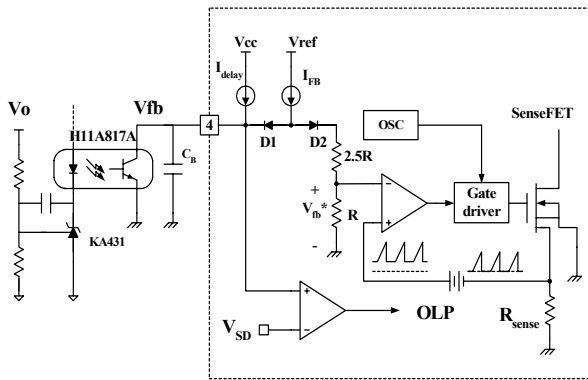

Figure 6. Pulse width modulation (PWM) circuit
**2. Feedback Control :** FS7M-series employs current mode control, as shown in Figure 6. An opto-coupler (such as the H11A817A) and shunt regulator (such as the KA431) are typically used to implement the feedback network. Comparing the feedback voltage with the voltage across the Rsense resistor plus an offset voltage makes it possible to control the switching duty cycle. When the reference pin voltage of the KA431 exceeds the internal reference voltage of 2.5V, the H11A817A LED current increases, thus pulling down the feedback voltage and reducing the duty cycle. This event typically happens when the input voltage is increased or the output load is decreased.
**2.1 Pulse-by-pulse current limit:** Because current mode control is employed, the peak current through the Sense FET is limited by the inverting input of PWM comparator ( $V_{fb}^*$ ) as shown in Figure 6. The feedback current ( $I_{FB}$ ) and internal resistors are designed so that the maximum cathode voltage of diode  $D_2$  is about 2.8V, which occurs when all  $I_{FB}$  flows through the internal resistors. Since  $D_1$  is blocked when the feedback voltage ( $V_{fb}$ ) exceeds 2.8V, the maximum voltage of the cathode of  $D_2$  is clamped at this voltage, thus clamping  $V_{fb}^*$ . Therefore, the peak value of the current through the Sense FET is limited.